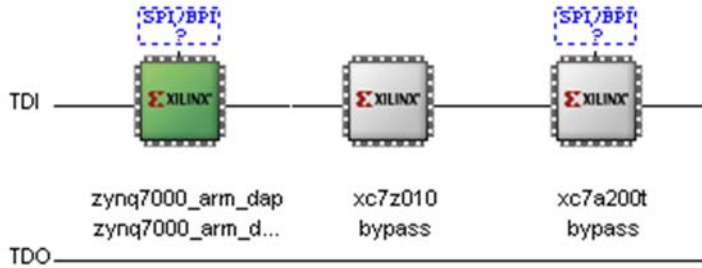
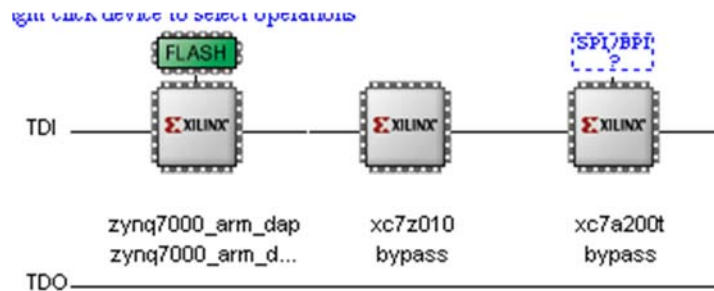

Figure 1 - Expected SSP JTAG chain.
Figure 3 - JTAG chain display after assignment of PROM type
- ___ DONE c. Select the options of **QSPI** and **Single** as shown. Hit OK. The image of the chain should change from that shown in Figure 1 to that shown in Figure 3.